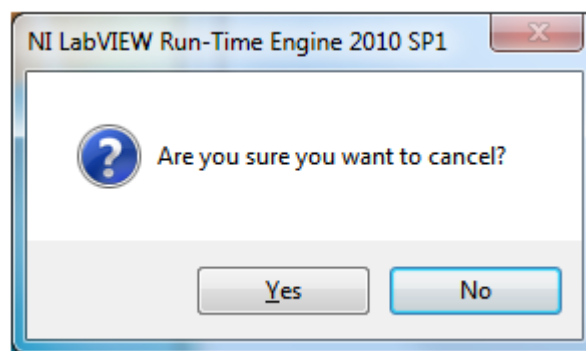

Figure 46. HMC-DAQ GUI Install: (LabVIEW RTE Cancel, if Installed Already)
13. Press the Yes button to confirm, as in Figure 46.